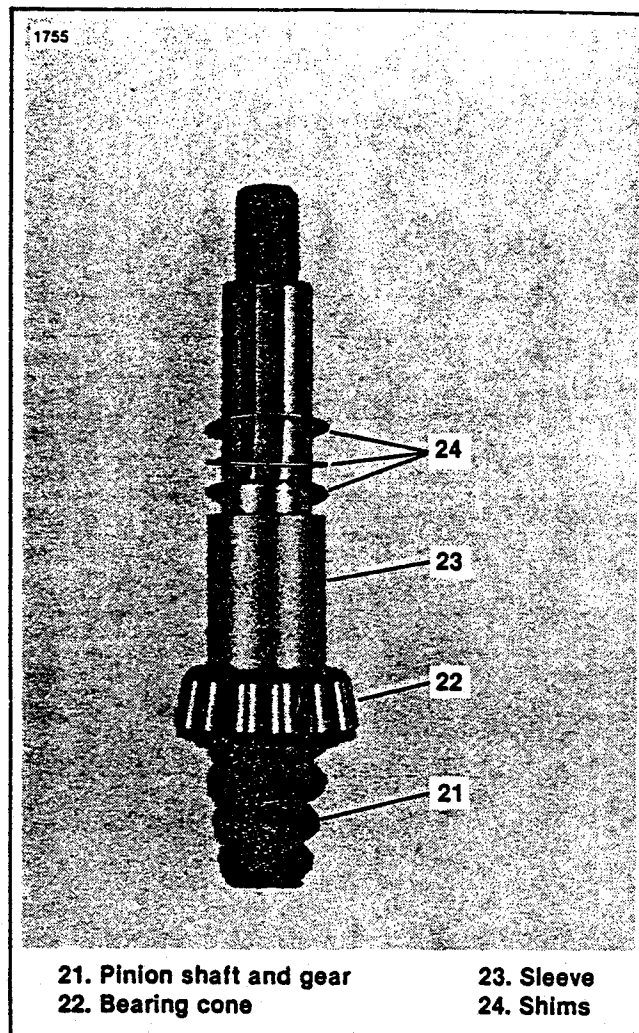

Figure 3-23. Pinion Assembly Ready to Install in Housing
- Install pinion bearing (22), spacer (23) and original preload shims (24) on pinion shaft (21). If original preload shims (24) are damaged, replace with new shim pack of same thickness (Figure 3-23).
- See Figure 3-23. Install pinion shaft (21) along with bearing (22), spacer (23), and shims (24) into housing.